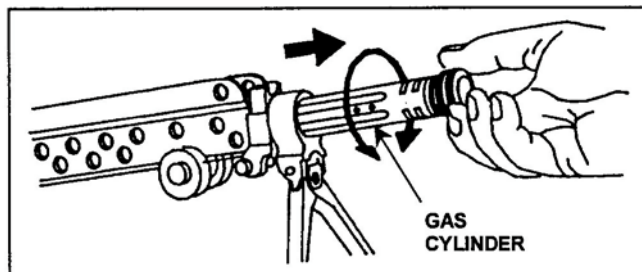

Figure 13. Removal of the gas cylinder.
- (1) Turn the gas cylinder to the left or right to release the locking spring.
- (2) Pull the gas cylinder forward to remove it (Figure 13).